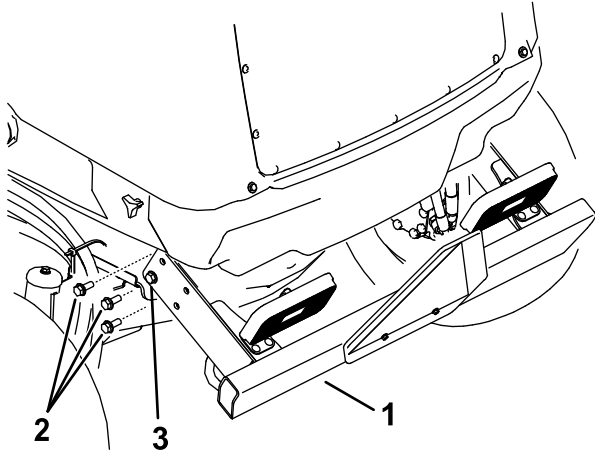

Figure 112
2. Remove the three 3 flange screws from each side of the rear bumper as shown in Figure 112.
6. Raise the rear bumper into position and install the flange screws. Tighten all the flange screws securing the rear bumper to the frame (Figure 112).